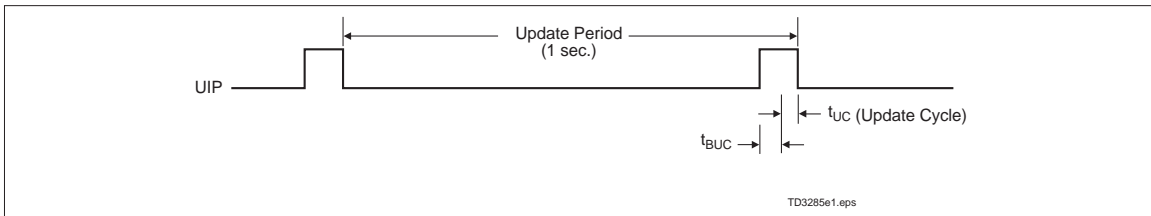

Figure 2. Update Period Timing and UIP
The update period for the bq3285LF is one second. The bq3285LF updates the contents of the clock and calendar locations during the update cycle at the end of each update period (see Figure 2). The alarm flag bit may also be set during the update cycle.
The update-in-progress bit (UIP) in register A is set tBUC time before the beginning of an update cycle (see Figure 2). This bit is cleared and the update-complete flag (UF) is set at the end of the update cycle.